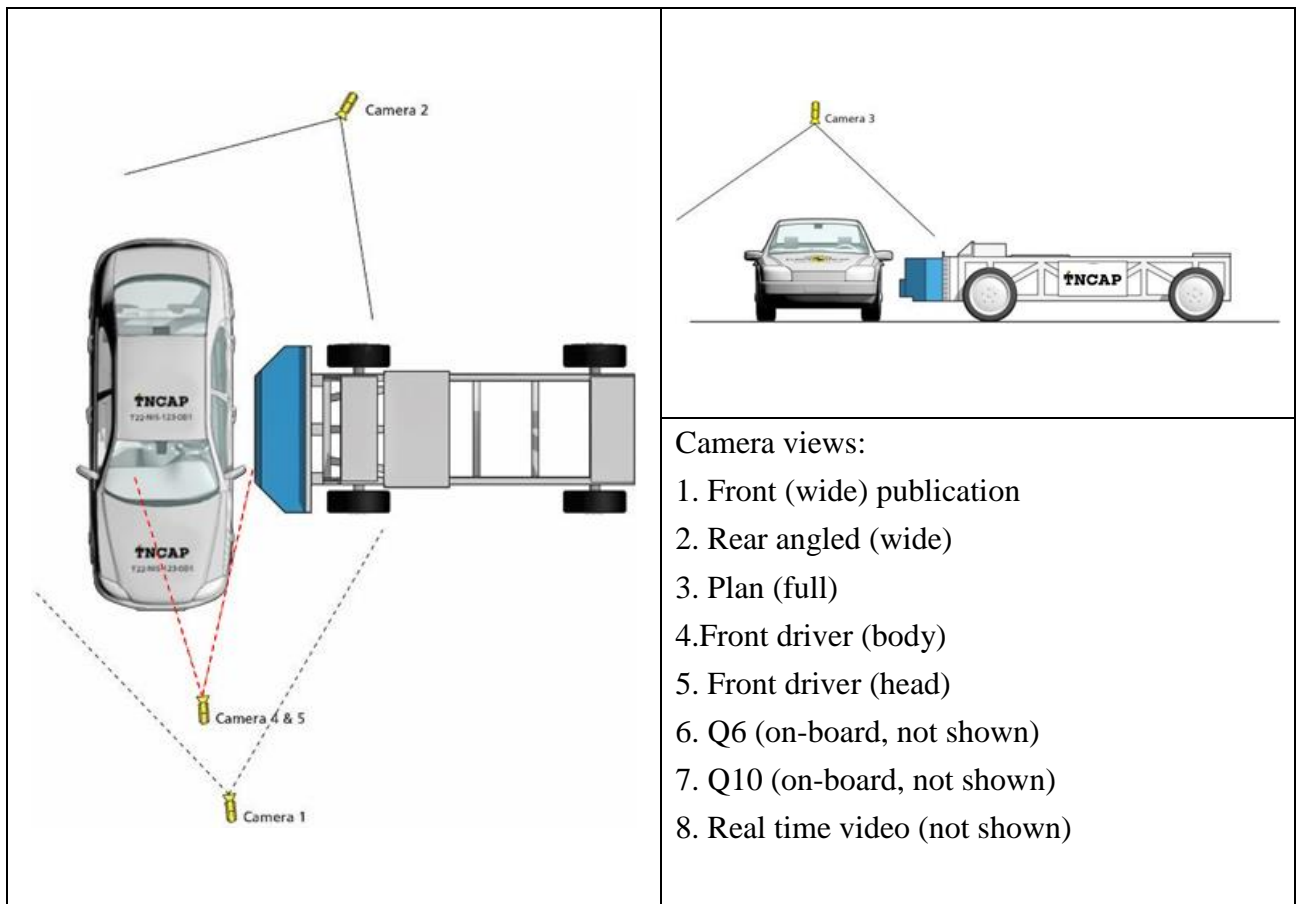

Figure 5: Locations for Cameras 1 to 5 (Side Moving Deformable Barrier)
A minimum of 5 cameras shall be installed around the test vehicle, positioned as indicated in Figure 5 below. Two (2) additional on-board cameras to assess child dummy head containment are to be used and also one real time camera.